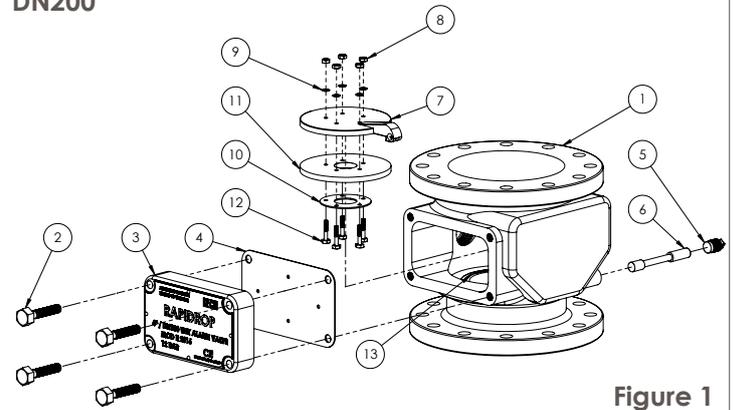

Figure 1
Maintenance (See Figure 1&2)
4. After the system is fully drained, remove the *cover plate* (3).
5. Remove the *clapper shaft retaining plug(s)* (5) and the *clapper shaft* (6).
6. Clean thoroughly removing any accumulated deposits. Inspect the *clapper gasket* (11).
7. If the *clapper gasket* (11) is worn or damaged, unscrew the *clapper nut* (8) and disassemble *clapper components* (7-12).
8. Replace damaged components with genuine replacement parts, and reassemble clapper as shown in Figure 1.
9. Inspect the *clapper seat ring* (13) inside the valve body for lodgement of dirt, bruising or scoring. Clean thoroughly if necessary.
10. A damaged *clapper seat ring* (13) can be carefully polished using lapping compound. If the damage is extensive then a complete new valve should be fitted.
11. After the inspection and replacement of parts, reinstall the *clapper assembly* (7-12) and fix it with the *clapper shaft* (6).